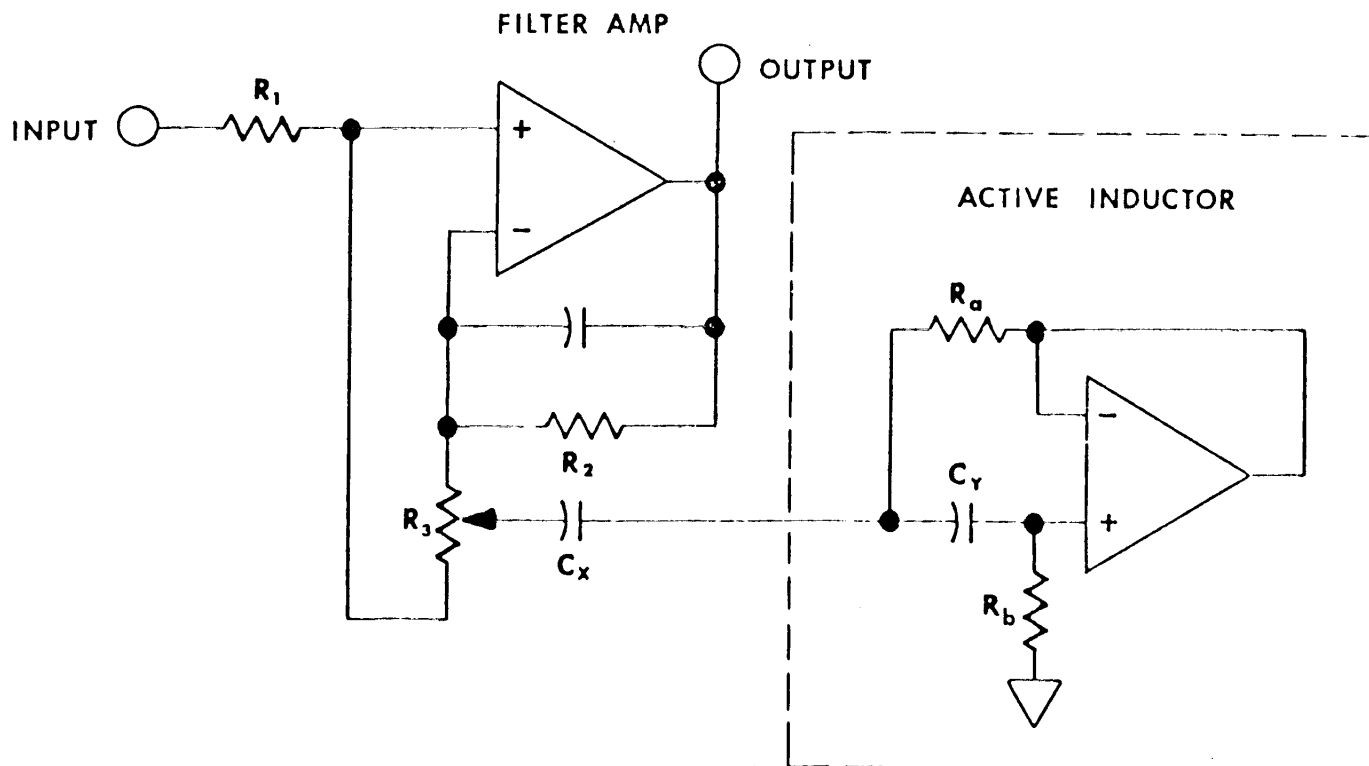
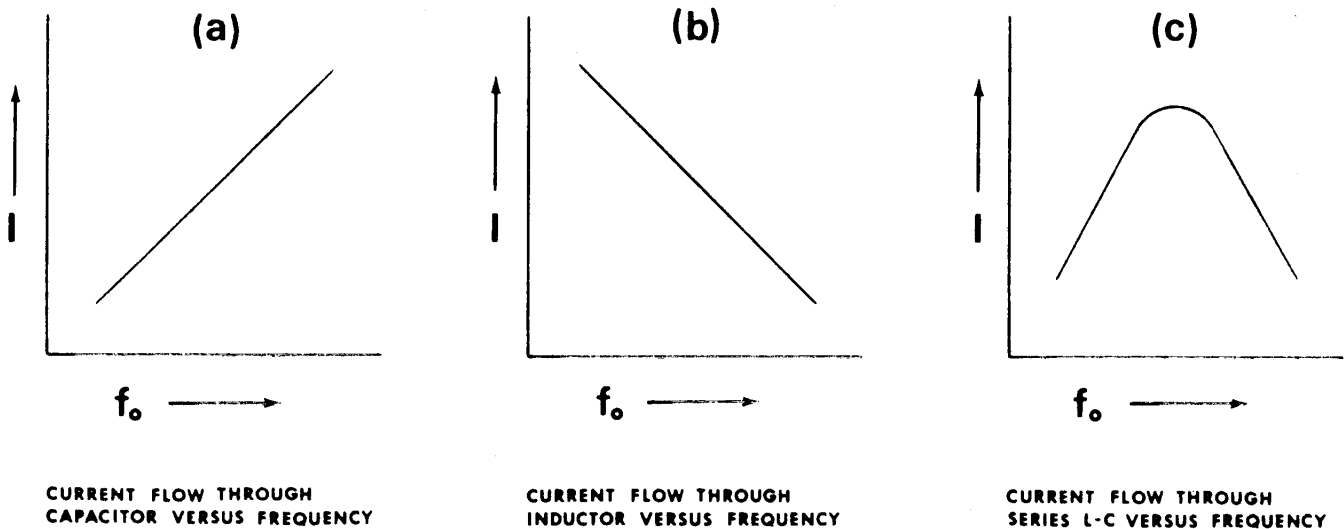

Figure 2-2 TYPICAL FILTER SCHEMATIC
Figure 2-3
Referring to Figure 2.2, the filter amplifier is connected as a unity gain follower because  $R_1$  and  $R_2$  are equal. With the potentiometer connected as shown, consider the result if the wiper of the pot were connected to AC ground. As the wiper is moved towards the positive input of the filter
2.3 THE ACTIVE INDUCTOR. The Model 530 does not use conventional coils to form its L-C-R networks. Rather the inductors are synthesized through the use of a circuit known as an active inductor, shown in Figure 2-2. To understand the operation of this circuit we look at the frequency response characteristic of a capacitor as shown in Figure 2-3 (a).
As frequency increases, capacitive reactance decreases and more current flows through the capacitor. An inductor as seen in Figure 2-3(b) functions in just the opposite manner. As frequency increases, inductive reactance
increases and less current flows through the inductor. The active inductor circuit uses a capacitor and an operational amplifier to simulate the action of an inductor. If we remove capacitor  $C_y$  from the circuit in Figure 2-2 we see that current flows into the circuit through resistor  $R_a$  to the virtual ground of the operational amplifier output. If we now return capacitor  $C_y$  to the circuit we see that with increase in frequency there will be current flow through the capacitor which will increase with frequency. This increase in current flow will be seen as an increase in voltage across resistor  $R_b$  which will be reflected in an increase in output voltage of the operational amplifier. This increased voltage results in a decrease in current flow through resistor  $R_a$ . This change in current flow through resistor  $R_a$  follows the chart 2-3(b) which is that of an inductor. The current flow through the active inductor in series with capacitor  $C_x$  is seen in Figure 2-3(c) in which the peak current is achieved when the inductive reactance of the inductor equals the capacitive reactance of the capacitor. This point is the resonant frequency of the circuit.